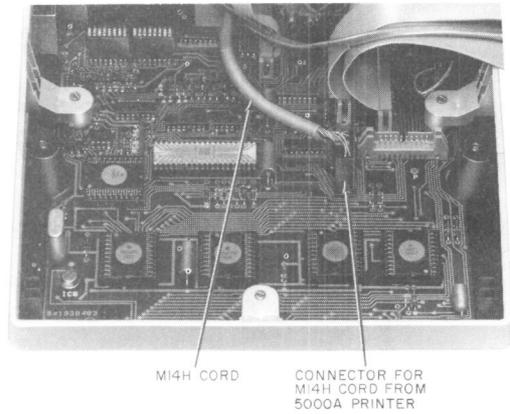

Fig. 6—5000A Terminal Set Main PWB with 5000A Printer Connected
(2) Plug the connector of the M14H cord into receptacle on main printed wiring board (PWB) Fig. 6. The connector is keyed and should not be forced.